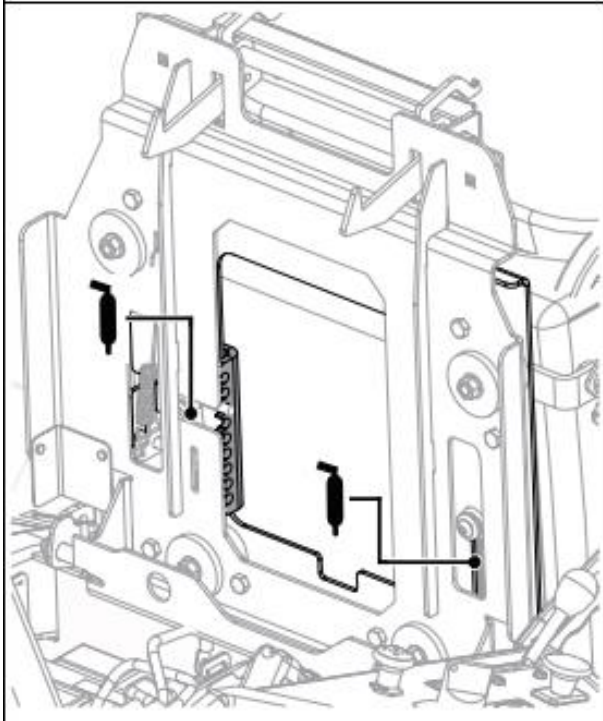

Figure 35
3. Return seat to operating position and slide seat back and forth to spread grease along tracks (Figure 35).